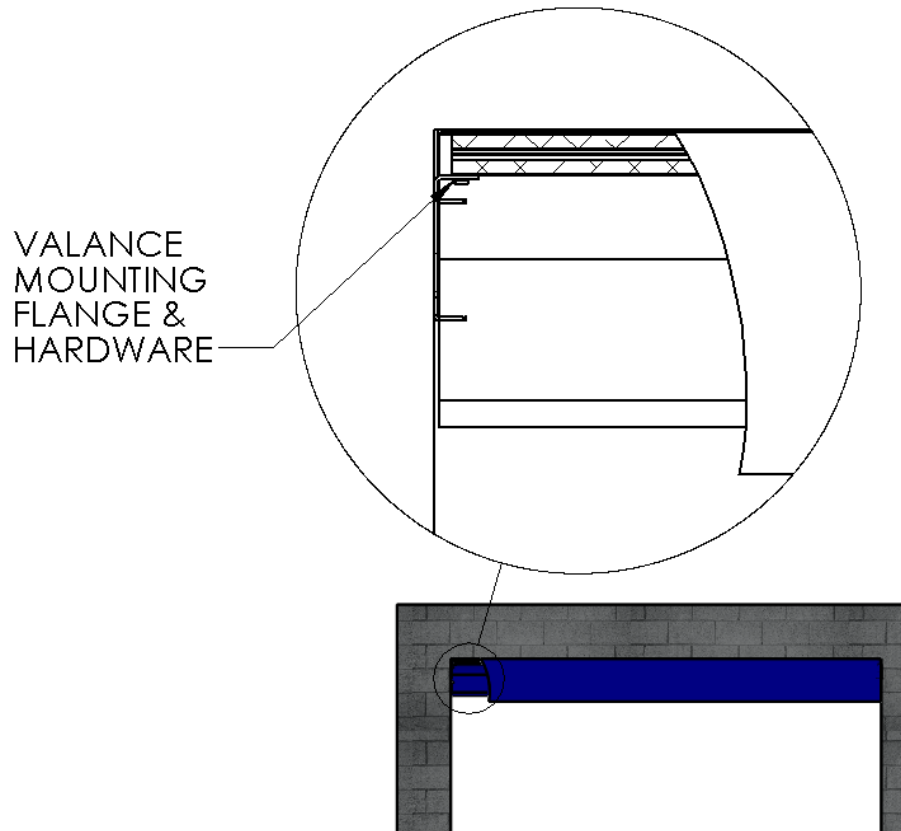

Figure 9 INSTALL VALANCE ASSEMBLY
1. Install the Valance Assembly onto the top of the bent flanges of the installed Header Mounting Brackets using the hardware provided in the Valance Beam. (Figure 9 INSTALL VALANCE ASSEMBLY)